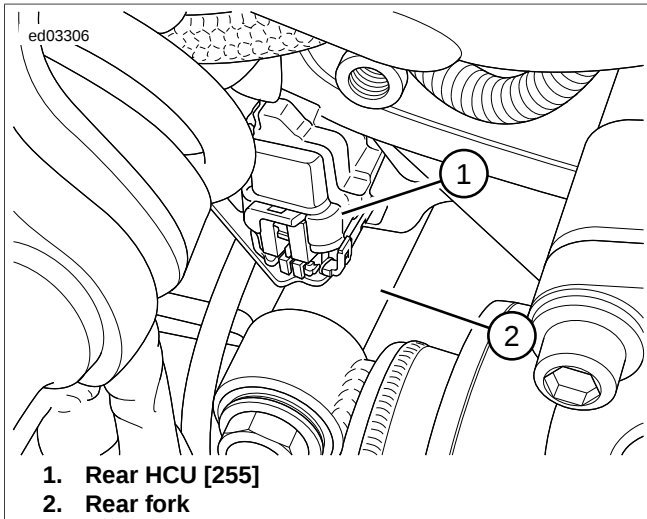

Figure 7-3. Rear HCU [255]
- See Figure 7-3. The rear HCU which contains a pump, accumulator, solenoids, apply and release valves.